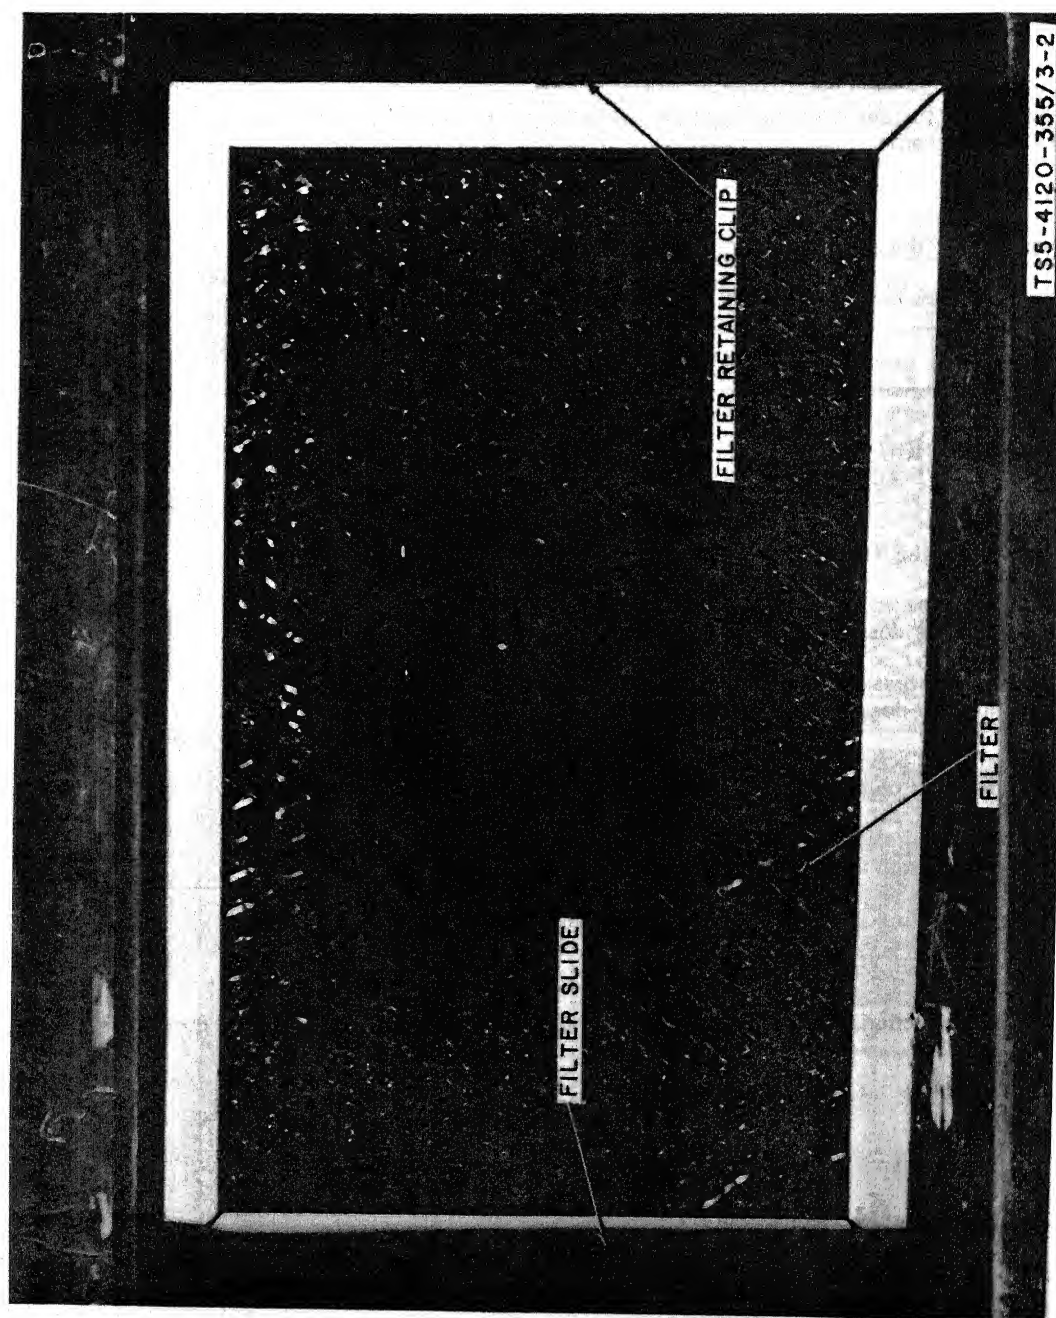

Figure 3-2. Air Filter, Removal and Installation.
- (2) Remove air filter, fig. 3-2.
- (3) Inspect filter for dirt.